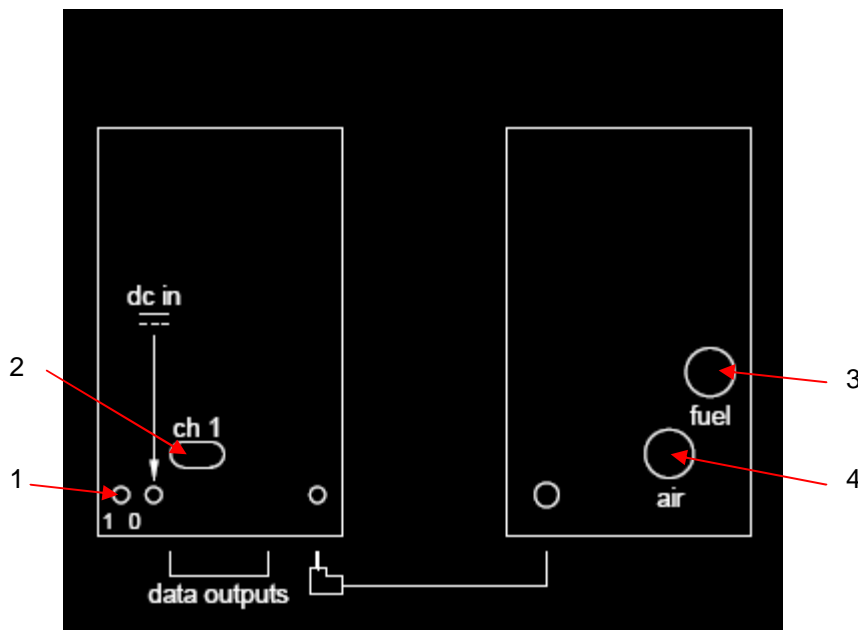

Figure 4.2 Rear Panel
The switch (item 1, Figure 4.2) turns the power supply on and off. When the instrument is switched on (1), the *power on* LED is illuminated, and an ignition cycle is initiated. When switched off (0), the flame is extinguished, the fuel supply is shut off and the power supply to the instrument is switched off.
Two colour coded chart recorder sockets (item 2, Figure 4.2). The range is 0V to +200mV, the output signal is on the red socket with respect to the black socket.
Ø7mm fuel inlet connector (item 3, Figure 4.2). For attaching the fuel gas tubing to the instrument from the cylinder regulator outlet; Refer to Section 2.1 for details of fuel type, pressure and flow rate.
Ø7mm connector (item 4, Figure 4.2). For attaching the air inlet tubing to the instrument from the air compressor outlet; See Section 2.1 for pressure and flow rate specifications.